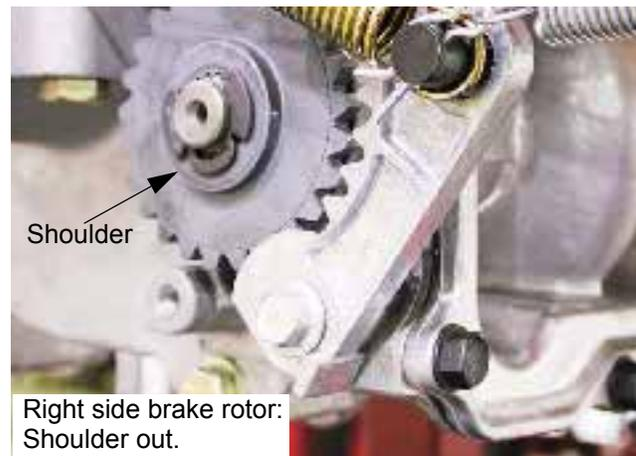

Figure 8.9
8.9. Prior to adjustment, check the brake pawls and rotors. See Figure 8.9.